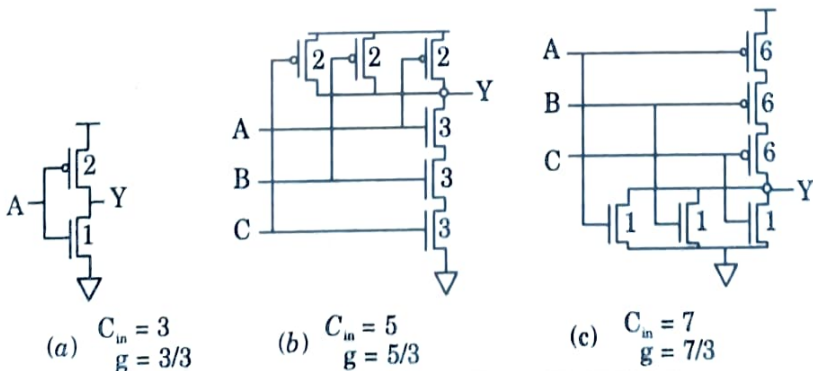

Fig. 2.14.1. Logical gates sized for unit resistance.
- Fig. 2.14.1 shows inverter, 3-input NAND, and 3-input NOR gates with transistors widths chosen to achieve unit resistance assuming pMOS transistors have twice the resistance of nMOS transistors.
3. For example, consider the gates in Fig. 2.14.1; assuming each transistor on the output node has its own drain diffusion contact.